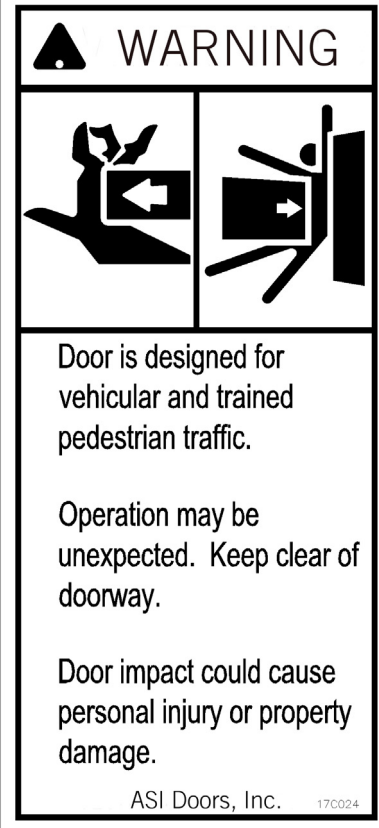
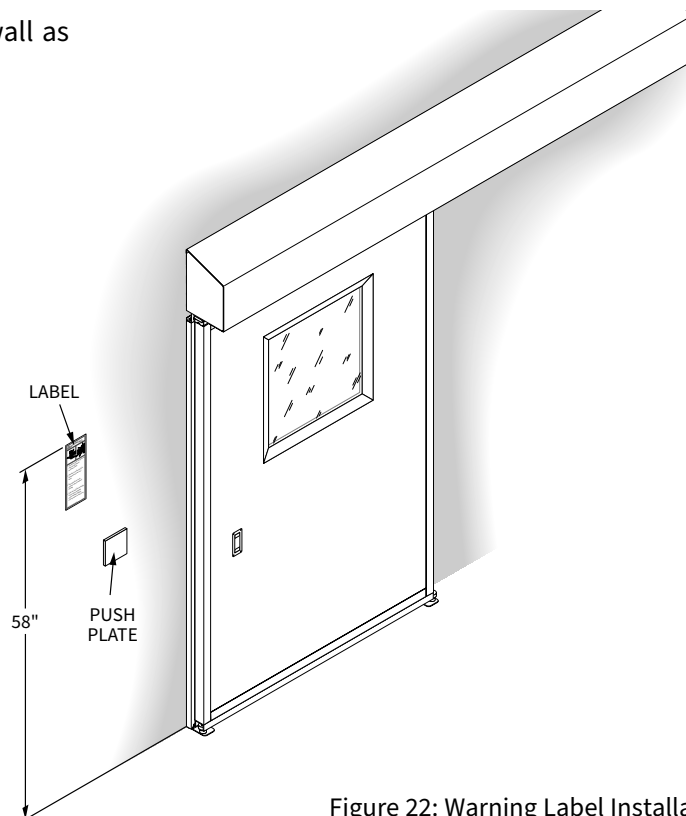

Figure 21: Warning Label
Figure 22: Warning Label Installation
1. Install warning label (Figure 21) to wall as shown in Figure 22.